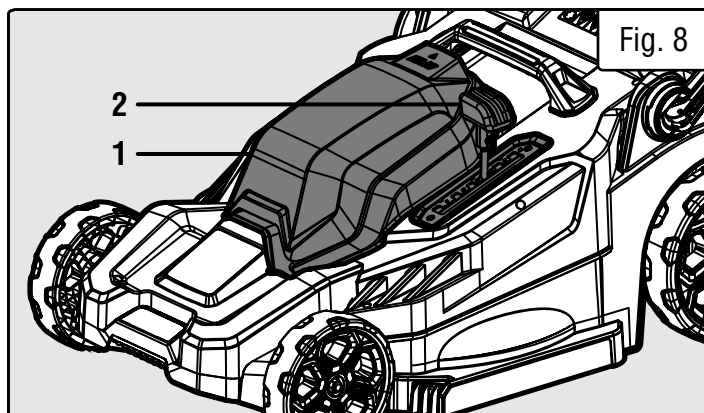

Fig. 8
1. Install the batteries into the battery housing (Fig. 8 - 1) on top of the lawn mower.
2. Move the cutting height adjustment lever (Fig. 8 - 2) to the desired cutting height.